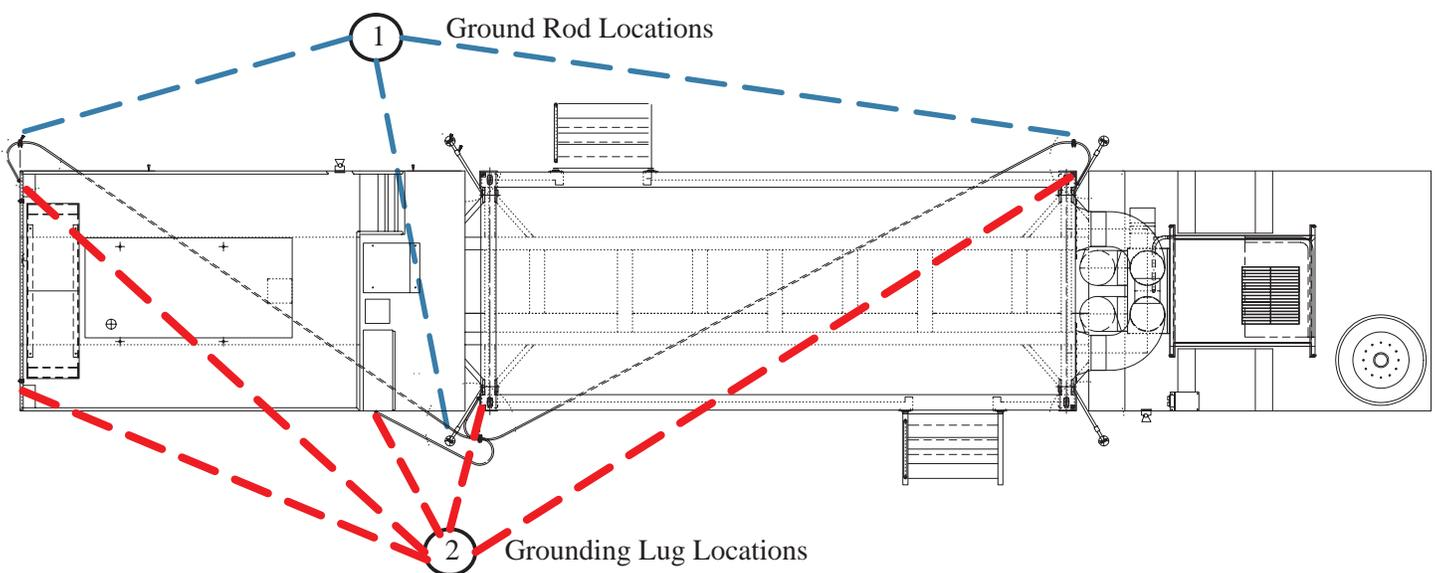

Figure 1-5. Ground Rod Locations
As part of the Mobile set tools and test equipment a grounding rod system is provided. The grounding system consists of two 40' copper grounding cables, six 5' grounding rods and 3 split bolts. In order to drive the ground rods into the ground you will need to use the rotary hammer. If power is not available refer to Steps 2 through 6 of paragraph 1-2.3 to provide a temporary ground. Once this is accomplished you can start up the generator and use the rotary hammer to continue driving ground rods. There are three grounding points on the trainer. Refer to call out (1) of Figure 1-5 for the location of each. Each ground rod should be 12 +/- 4 inches from the trainer, perpendicular to the grounding lug. The ground rods come in 5' sections, two 5' sections will need to be screwed together in order to have the required 10' section. Upon completion of ground rod installation, the grounding cables will need to be attached to the ground rods and ground lugs located on the trainer system. There are five grounding lugs: 2 on the trainer shelter, 1 on the main circuit breaker panel and 2 at the front of the trailer, refer to callout 2 of Figure 1-5. The grounding lug located near the grounding rod is used at the front of the trailer. The additional grounding lug is used for lightning protection purposes and (if needed) during refueling operations. Split bolts are provided to attach the ground cables to the ground rods.